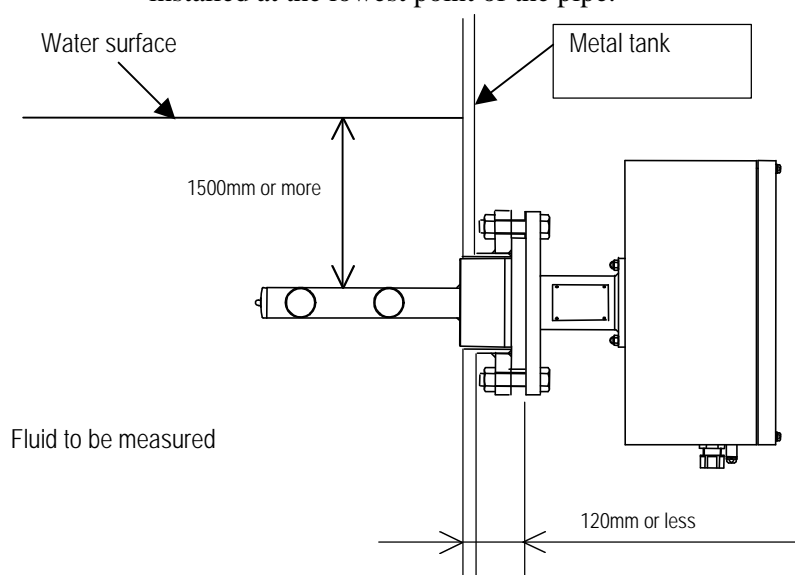
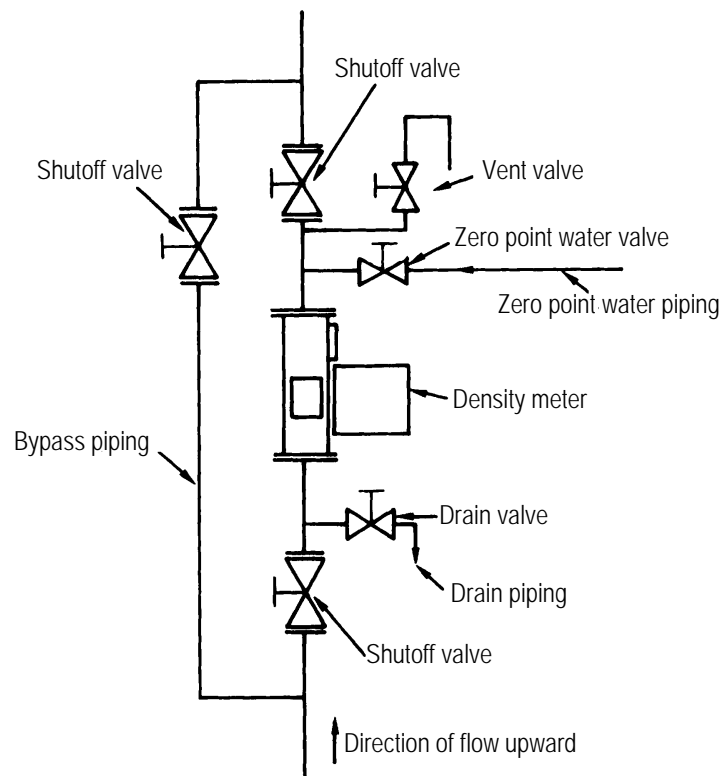
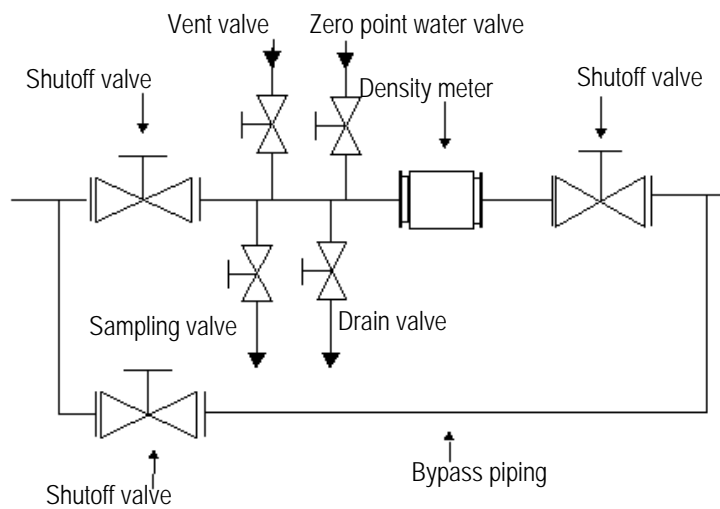
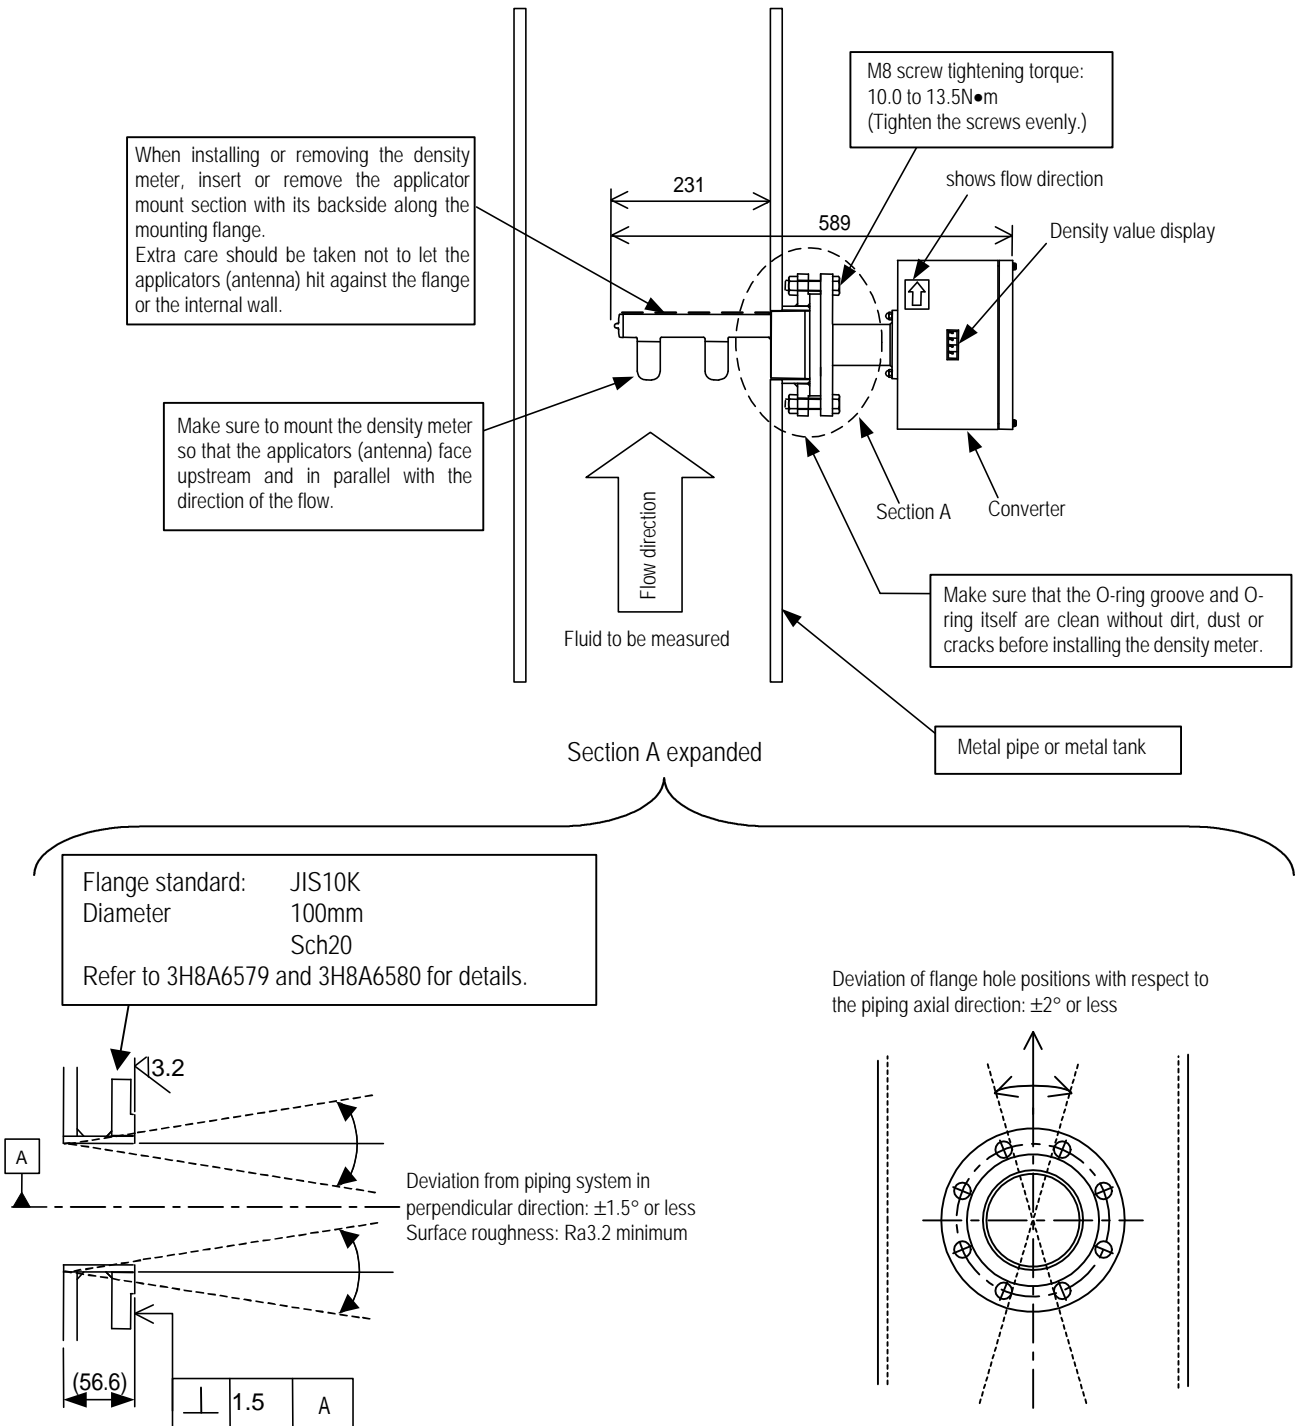

Figure 3.3.1 Precautions when installing the density meter in a tank
Fig. 3.3.2 Meter mounted vertically
Fig. 3.3.3 Meter mounted Horizontally (looking from above)
Fig 3.3.4 Installation Precaution
Installing the density meter is illustrated in Fig. 3.3.1 and Fig. 3.3.2, Fig.3.3.3, Fig.3.3.4.
- (13) We recommend the installation should be made to a vertical piping system. The density meter can operate the same performance even in a horizontal installation but only a vertical installation is allowed for item (14).
- (14) The installation should be made to a vertical piping system in the following cases:
- (15) We recommend that the converter section stay at the top when the density meter is installed to a horizontal piping system because the maintenance is easy and its performance is assured.
- (16) We recommend that the density meter should be installed at a point as far away as possible from a port open to atmosphere and the water pressure is required a little to prevent bubbles from entering in the fluid to be measured.
- (17) On both the upstream and downstream sides of the density meter, install shutoff valves. Furthermore, between these valves and the density meter, install the sampling port, the zero water supply port, the air release port, the drain port with a shutoff valve attached respectively. In the event that the flow of the pipe line cannot be stopped, provide a bypass pipe halfway with a shutoff valve attached. When performing zero point calibration, these are needed to discharge the measured matter out of the density meter through its drain port and fill up the meter with fresh water of zero density. (See Figures 3.3.2 and 3.3.3.)
- (18) As to insertion orientation, install the density meter so that a pair of antennas face toward upstream.
- (19) In a tank, install the density meter so that the applicators (antenna) are submerged 150 mm or more under water from the surface. If the depth of water is less than 150 mm or the applicators surface stays above the water level in cases like a pump operation, use the external synch signal and measure the density only when the applicators surface remains more than 150 mm under water (see Figure 3.3.1.)
- (20) Install the density meter far from such places as near the agitator in a tank where bubble are generated and density disturbances occur and this affects the density measurement.